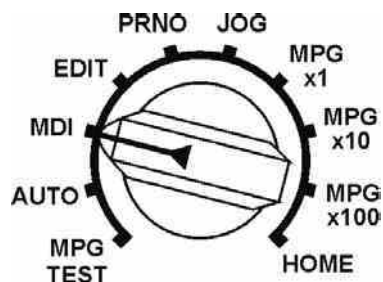

Fig. 2-8
- (1) In the “Edit Screen” (as per Fig. 2-8 below), you may search the interrupted node or reset for restarting such node. Press F4 Key after completing the search or setting; when “Restart” indicates reverse white, it means such function is active.
- (2) Under Auto screen, press F4 Key to select or cancel the function restarting. When “Restart” indicates reverse white, it means such function is closed; otherwise, it will be cancelled. After pressing “Start” key to run the program again, the program will start running from the previously interrupted node or the “Restart” node being set.
① When setting “If to grab previous node when restarting” parameter item as “0”, the system will grab the previous node after pressing “Start” key and